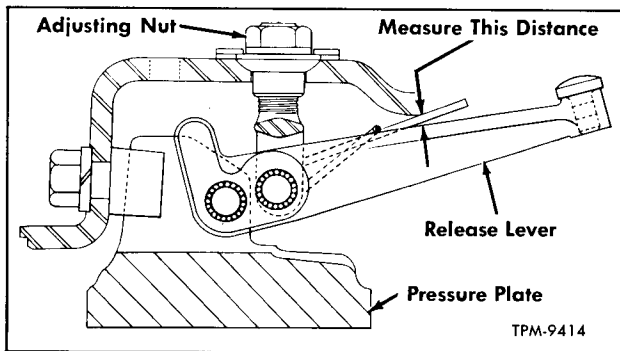

Figure 7—Point of Measurement For Resetting Release Levers
1. Through inspection hole in clutch housing measure distance from edge of clutch cover to lever at point indicated in figure 7.